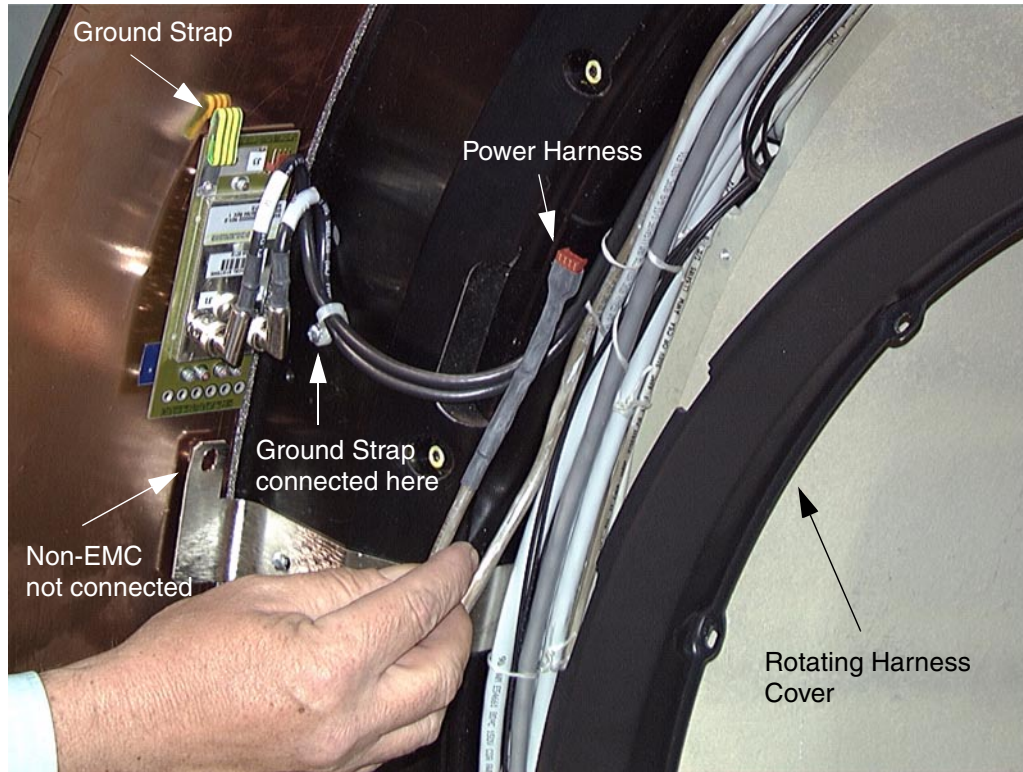

Figure 2-20 Rotating Transceiver Power Harness
- d.) Route power harness through Rotating Harness cover slot following existing RCOM coax cabling. Reference Figure 2-20 on page 36.
- 1.) Remove ten (10) Phillips screws from the rotating harness cover. Reference Figure 2-20.
- 3.) Replace the ten (10) Phillips screws.